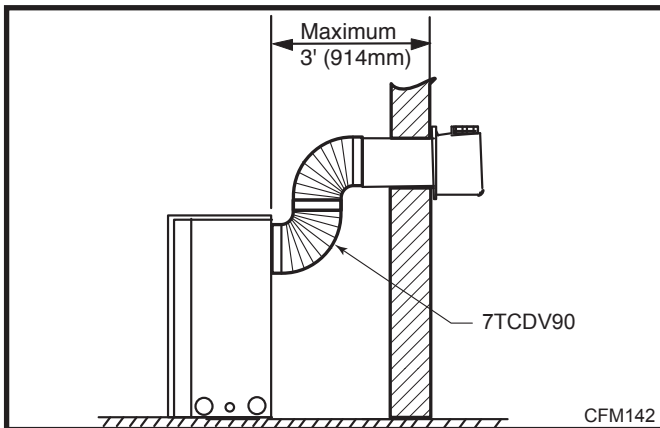
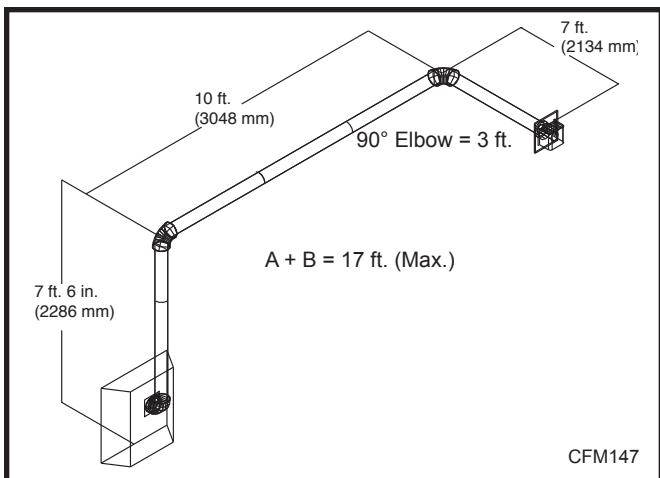

Fig. 22 Maximum horizontal vent run.
Fig. 23 Maximum vent run with elbows.
- If a 90° elbow is used in the horizontal vent run (level height maintained) the maximum horizontal vent length is reduced by 36" (914 mm). (Fig. 22) This does not apply if the 90° elbows are used to increase or redirect a vertical rise. (Fig. 23)
the horizontal vent it must be reduced to 17' (5.2 m). In Figure 23 Dimension A plus B must not be greater than 17' (5.2 m).